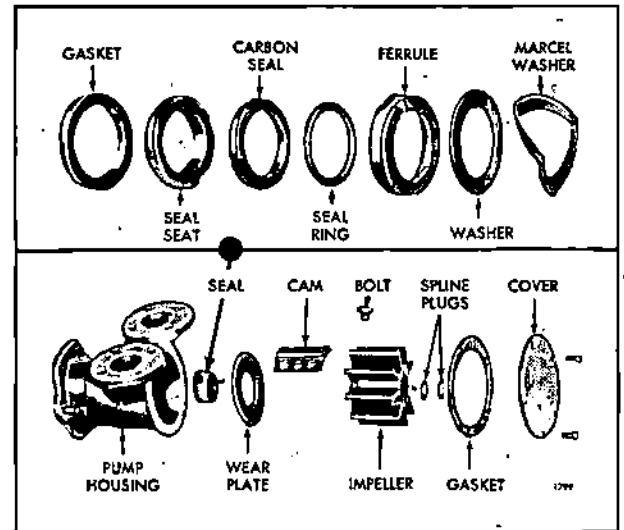

Fig. 15 - Raw Water Pump Details and Relative Location of Parts
The impeller (Fig. 15) is self-lubricated by the water pumped and should be primed before starting the engine.
1. Remove the cover screws and lift the cover and gasket from the housing (Fig. 15). Note the position of the impeller blades to facilitate reassembly.